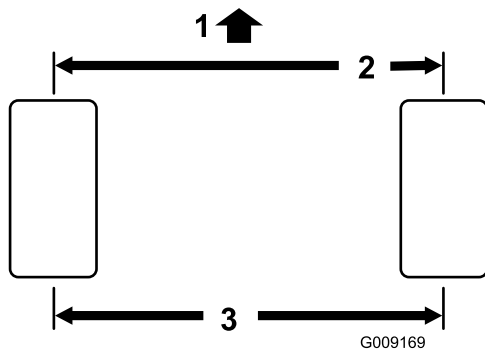

Figure 56
2. Measure the center-to-center distance (at axle height) at the front and rear of the steering tires (Figure 56).